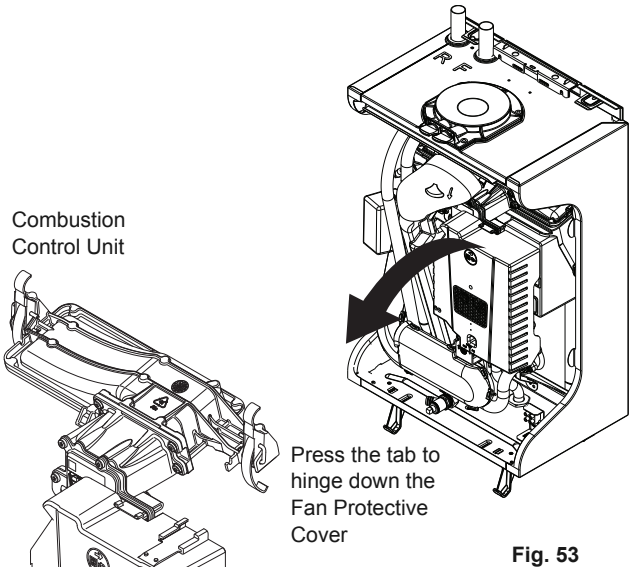

Fig. 53
### 10.3.10 Combustion Control Unit (Figs. 53 to 57)
2. Disconnect the cable from the bottom of the PCB, disengage the fan protective cover securing tab and lower the cover after disconnecting the electrical test point (Figs. 53 & 54)